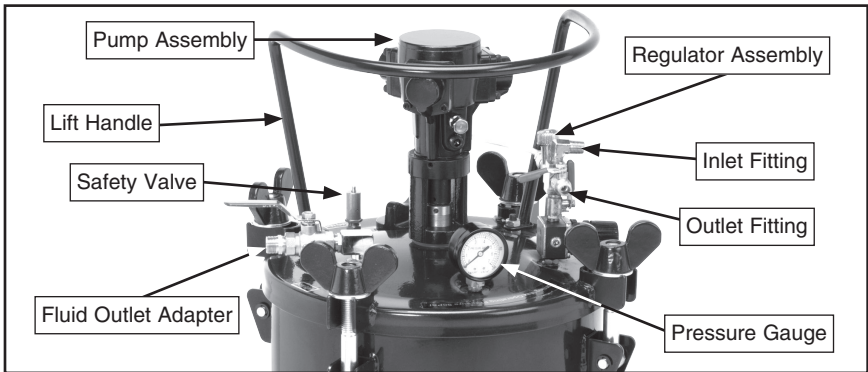

Figure 2. Lid assembly identification.
2. Connect a $\frac{1}{4}$ NPT air supply hose (not included), to the inlet fitting on the regulator (Figure 2).